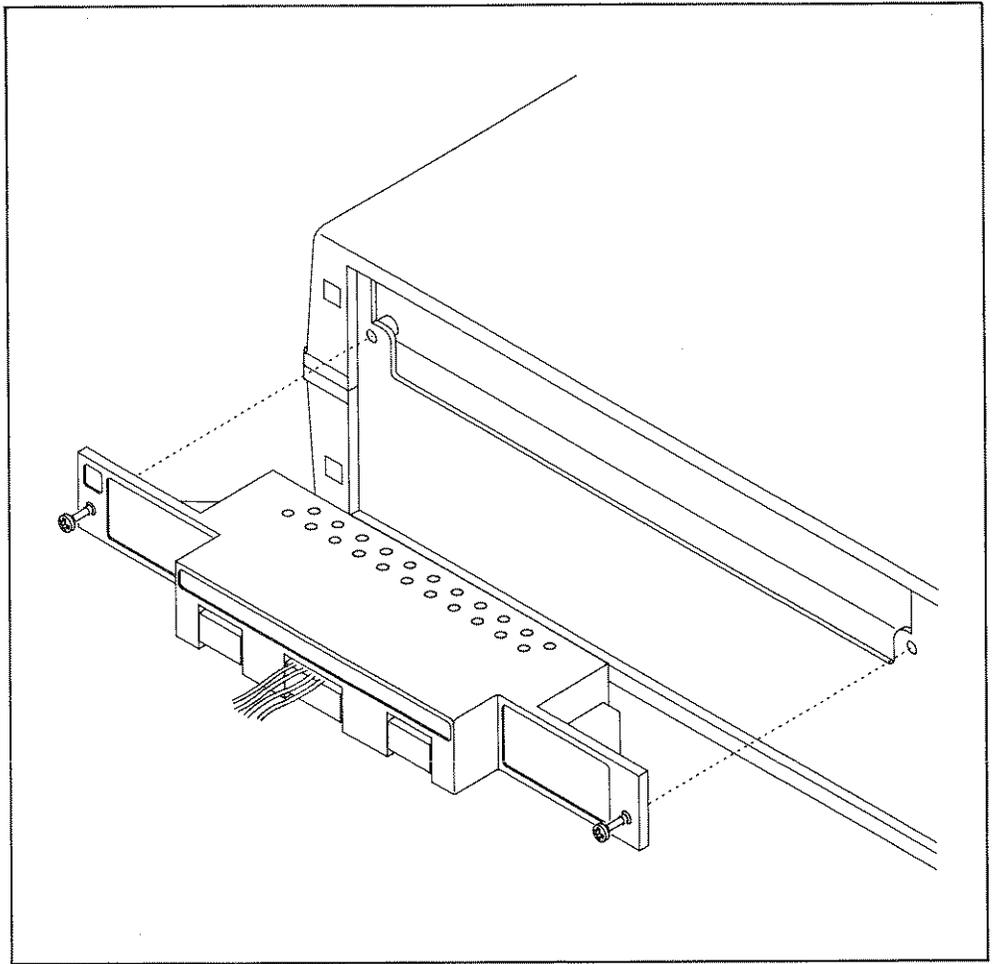

Figure 5-7. Installing Strain Relief/Wiring Block
4. Push the wiring block/strain relief housing card onto the plug-in card connector (see Figure 5-7). Tighten the screws on each end of the housing.